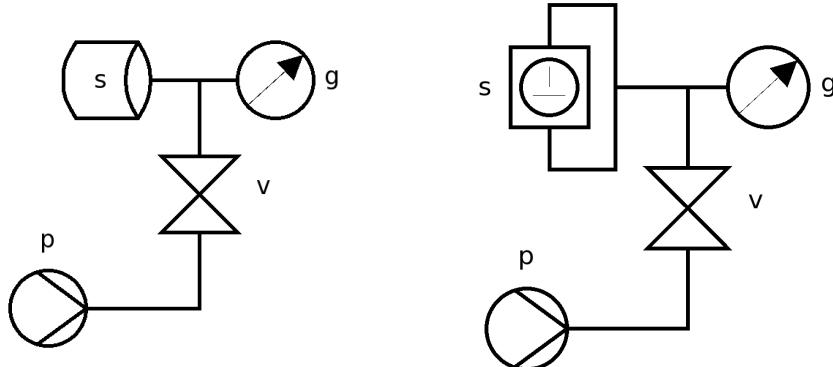
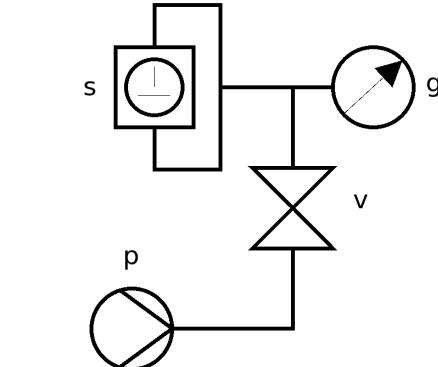

Figure 5.15: Vacuum rise schematic: s is the system to check; g is a pressure gauge; v is a leak-tight manual valve; p exhausts to atmosphere.
Figure 5.16: The same as Figure 5.15 except s has two ports, the inlet and exhaust of a pump, in this case.
1. Set up as shown in Figure 5.15 or Figure 5.16. If the system is powered (such as a pump), make sure it is unplugged.